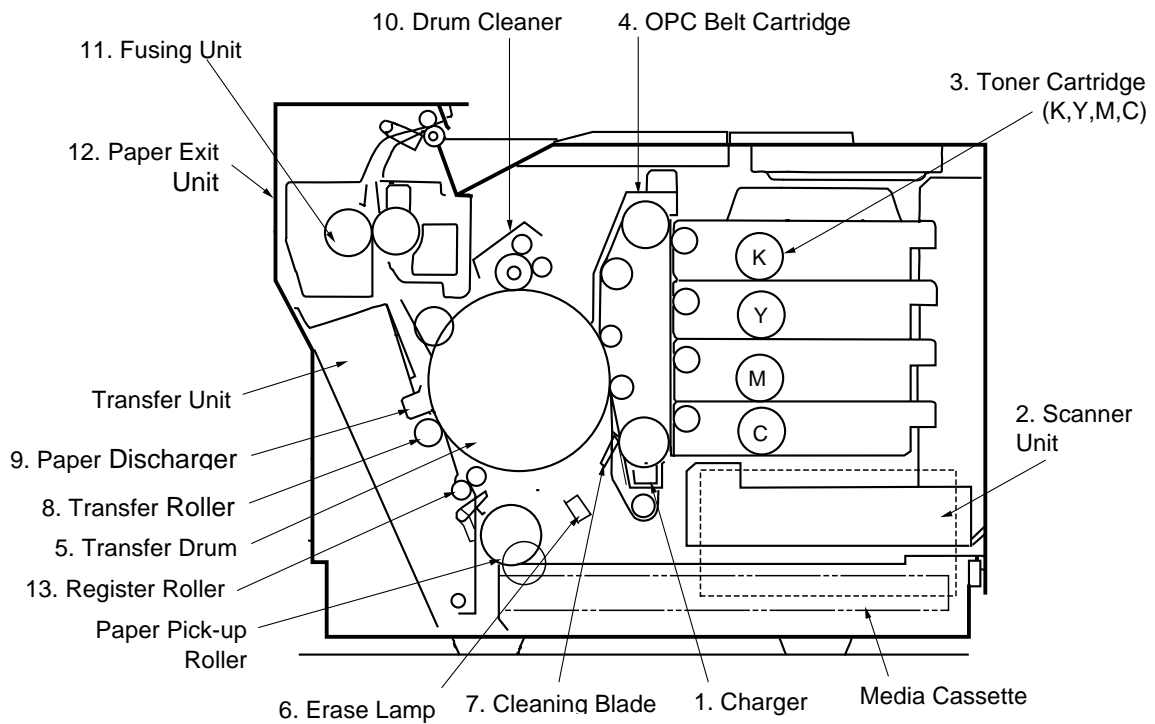
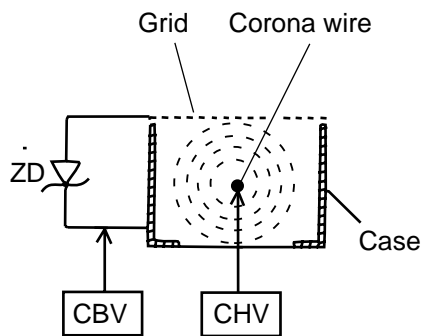

Fig.4-8
Fig.4-11
- (1) Structure of the Charger Unit (Refer to Fig.4-8 and Fig.4-11)
- i) The charger unit is located as shown in Fig.4-8.
(1) Structure of Scanner Unit
- i) The scanner unit is located as shown in Fig.4-8.
- (1) Structure of the Toner Cartridge (Refer to Fig.4-8 & 4.14.)
- i) The toner cartridge is located as shown in Fig.4-8.
- (2) Process of Developing (Refer to Fig.4-8, 4-14, 4-15, and 4-16)
- (1) Structure of the Transfer Drum (Refer to Fig.4-8.)
- i) The drum is located as shown in Fig.4-8.